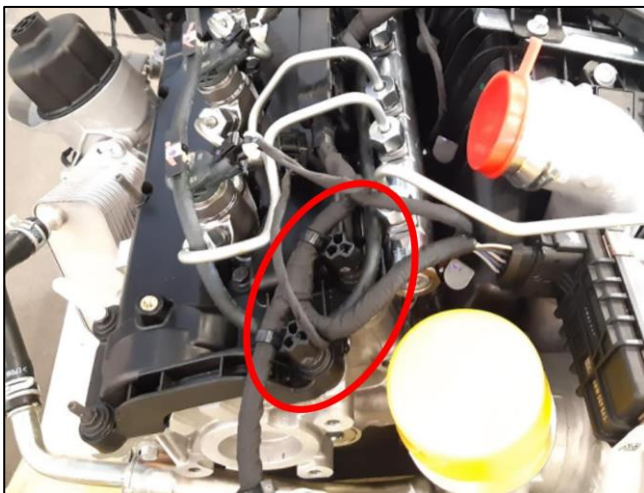

Figure 3
5. Secure the harness retaining clips to the appropriate studs and ensure the harness is over the fuel return line. Fit the harness cover onto the valve cover studs. Please see (Figures 3&4). Take care not to pinch the fuel return line.